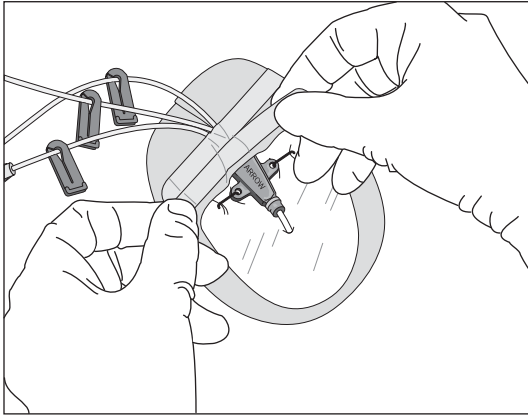

Figure 9
- Use sterile tape strips to secure hub, lumens, and/or tubing (refer to Figure 9).